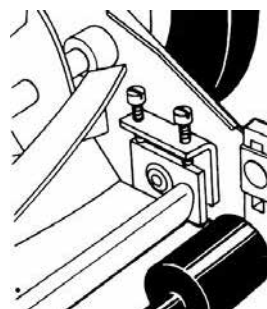

figure 8
- Adjust the cutter bar so that cutter bar blade has light but firm contact with the reel blades across the full width of the cutter bar (refer to figure 8).